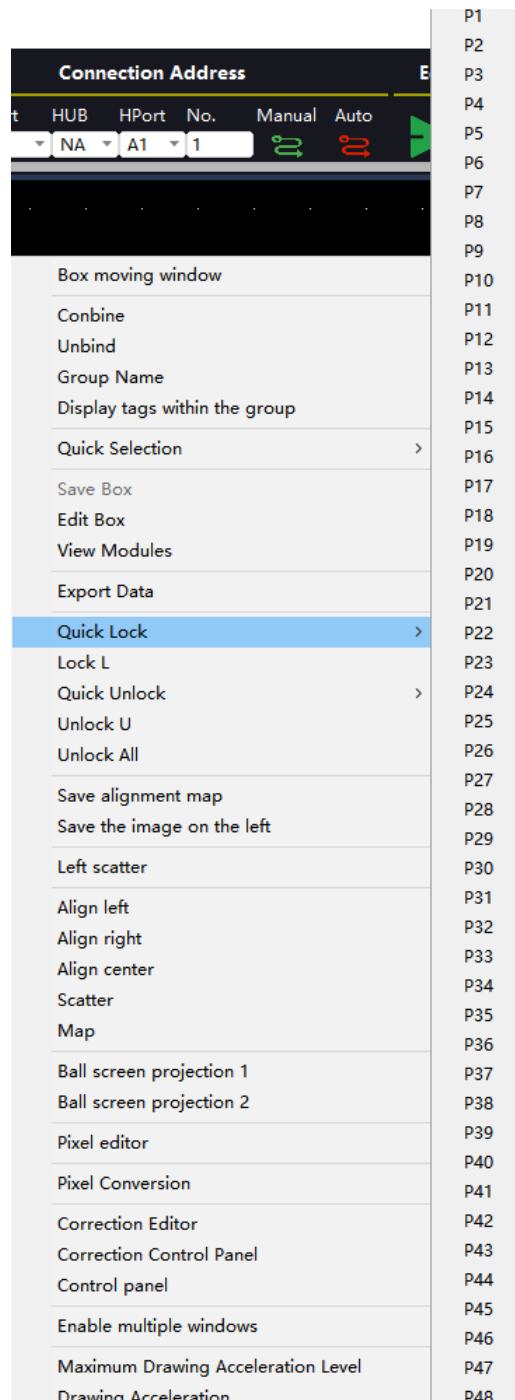

Figure 4-3-19 Quick Unlock
- **Quick Unlock:** Right-click and choose Quick Unlock, then select an Ethernet-output number. AutoLED unlocks every cabinet assigned to that output, as shown in Figure 4-3-19.